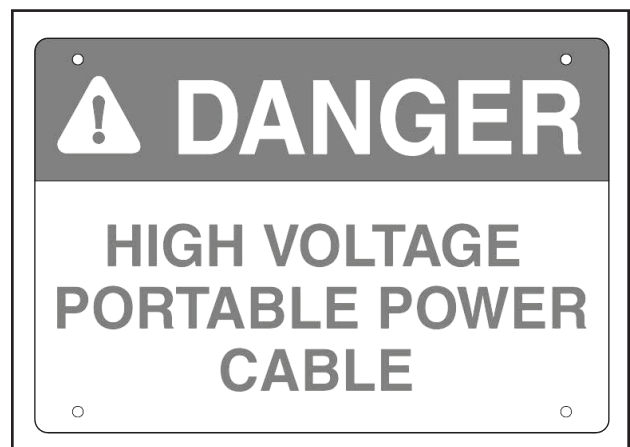

Figure 41-1 Danger Sign
1. Ensure that the danger signs are in place and visible at each end of the travel lane. See figure 41-1.